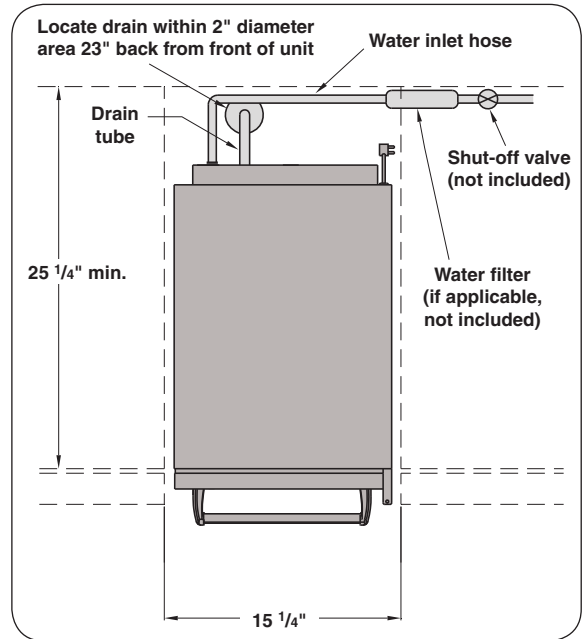

Fig. 9-1 Top view
5. Connect the drain tube (with a diameter of $5/8"$) to the drain pipe at the rear of the product and secure them together using a hose clamp. See Fig. 9-1 for orientation.